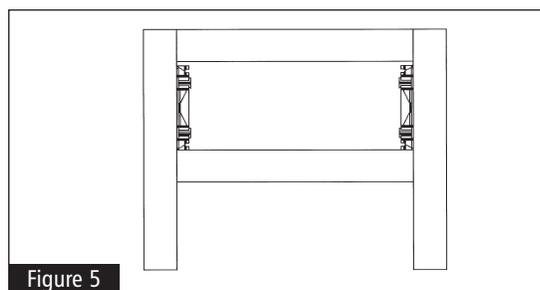

Figure 5
- 5** Attach drawer front to cabinet by pressing the DDF Fastener Female that is attached to the drawer front over the DDF Fastener Male part that is attached to the cabinet frame. See Figure 5.